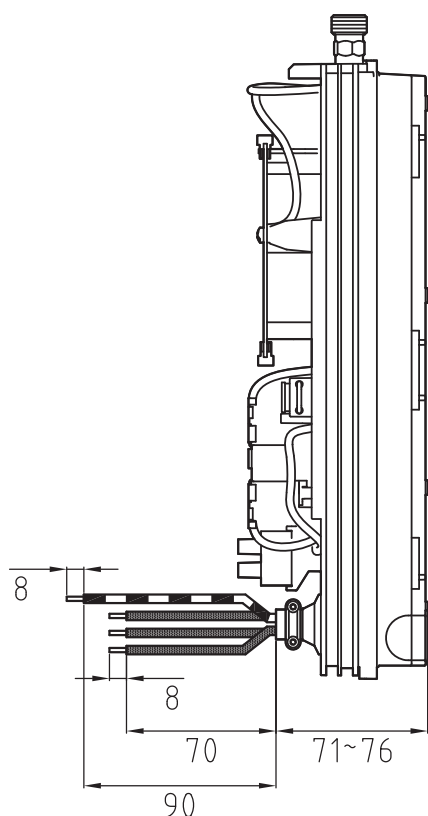

Fig.2
2. Remove inner and outer insulation from the connecting cable to the lengths shown in Fig.2.